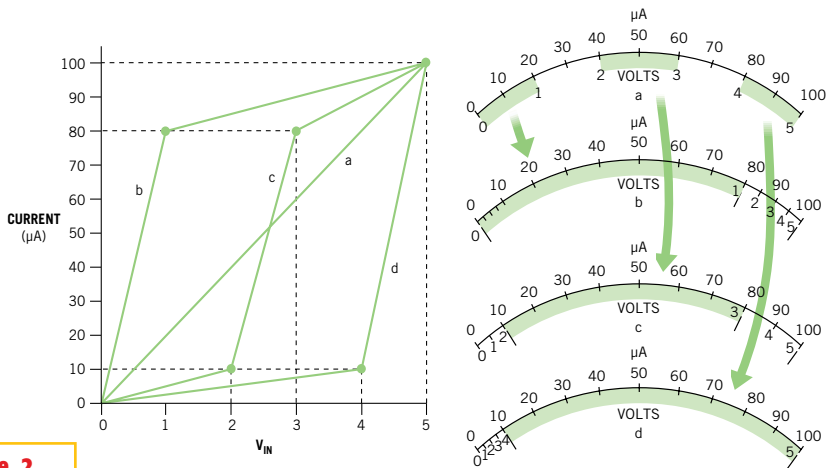

Figure 2
Therefore, you can control the current through the meter by changing the pulse width of the PWM signal. The PWM-generating software determines the law that governs the change in current in the meter. In the process of creating this software, you can choose expansion of any part of the scale (**Figure 2**).
and d denotes the expansion of the upper end of the scale. The curves with high slopes in the graph of **Figure 2** correspond to expanded scales. You can create the scale patterns by choosing the threshold voltages (breakpoints) and slopes. The circuit resembles an “electronic lens” attached to the meter, which magnifies any chosen part of the scale. The ADC in the microcontroller of **Figure 1** transforms the measured input voltage into its
ter with a measured-voltage range of 0 to 5V. You need to magnify the portion of the input from 2 to 3V, from 20 to 70%, leaving 10% at the beginning and 20% at the end of the scale (Figure 2, characteristic c). Table 1 shows the steps of the calculations, which you execute as follows:
1. Choose a number (N) and the values of the measured input voltages, V_{IN} . These parameters depend on the desired accuracy of the meter scale. As an example, assume voltages with increments of 0.5V for the low slope (Figure 2) and 0.1V for the high slope (Table 1, column 2). Therefore, $N=19$.
6. Determine the duty cycle (α) of the PWM signal for each chosen input voltage, V_{IN} , as well as the scale-expansion pattern (column 5); $\alpha = (I_V / I_{MAX}) \times 100\%$. You could either read the current value directly from the diagram in Figure 2 (characteristic c) or calculate it for three linear parts of the scale with the following equation: $I_V = I_{Ti} + S_i(V_{IN} - V_{Ti})$, where I_V is the current for the given input voltage V_{IN} , I_{Ti} is the current for the threshold voltage V_{Ti} ($i = \{1,2,3\}$), and S_i is the slope of each linear portion of the scale in Figure 2 (characteristic c). The expressions for the three piecewise-linear segments are as follows: